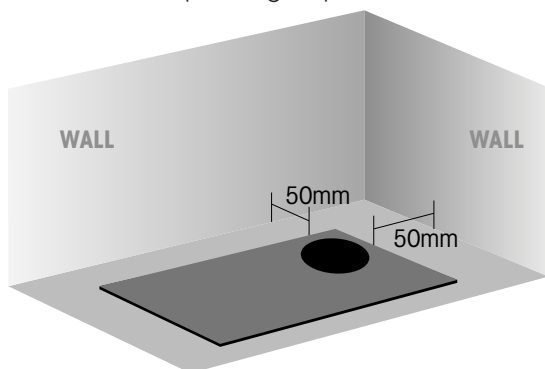

Fig. 18
- **Electric Cooktops and Induction Cooktops** - Installation of **essastone** as a splashback must be installed with a minimum distance of 50mm from the back edge of the cooktop to the front of the **essastone** splashback and also in accordance to any specific installation instructions from the appliance manufacturer (*See Fig. 18*).